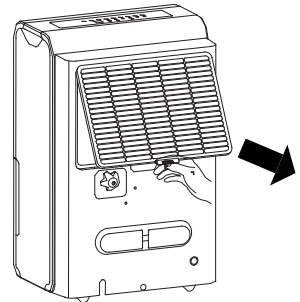

Fig. 12
- To remove the filter, pull filter outwards (See Fig. 12).